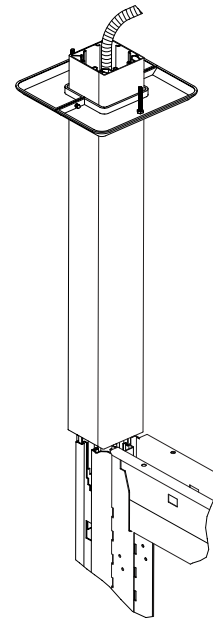

Fig. 9
11. Install ceiling top trim (Fig. 9).